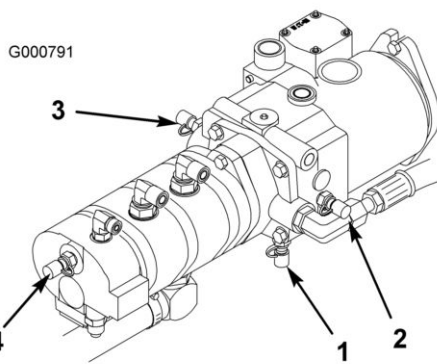

Figure 81
4. Test Port D is located on the bottom of the hydrostatic transmission (Figure 81) and is used to measure the charge pressure of the transmission.
5. Test Port E is used to measure traction forward pressure (Figure 81).
6. Test Port F is used to measure traction reverse pressure (Figure 81).
7. Test Port G is used to measure steering circuit pressure (Figure 81).